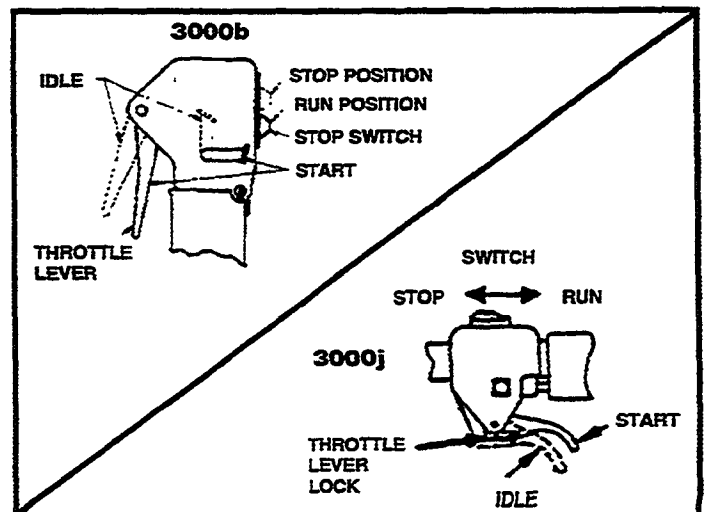

Figure 9
- Lock throttle lever in the start position as shown in Figure 9.
- Pull starter rope slowly, until engine compression is felt (Figure 9). Pull the starter in short rapid strokes until engine starts.